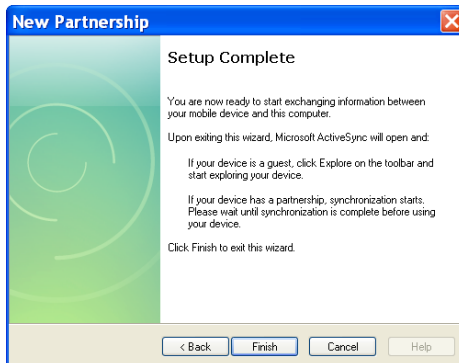

Figure 4-5. Microsoft ActiveSync
- Click **Finish** to complete the setup. ActiveSync creates a folder on your computer desktop and attempts to synchronize the item types you selected with similar items on the SHC2500. For example, if you selected Files and placed a file in the My Documents folder on the SHC2500, ActiveSync transfers it to the desktop folder on the SHC2500 (Figure 4-5).